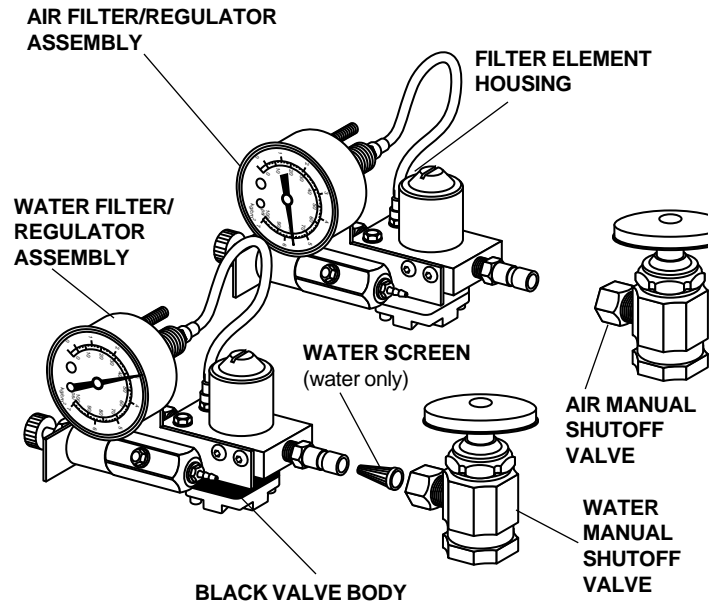

FIGURE 36
- Loosen the hex nut on the air and water manual shutoff valves (see Figure 36).
- Install the water screen on the water filter/regulator, identified by a black valve body (see Figure 36).
- Connect the air and water filter/regulators to the manual shutoff valves (see Figure 36). **DO NOT overtighten the fittings.** The filter/regulators should be positioned at an angle to provide easy access to the filter element on each filter/regulator manifold.